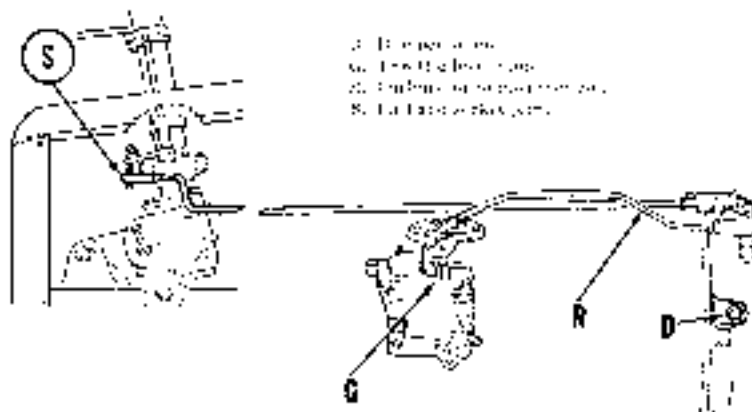

Fig. MH12—Pony governor linkage assembly.
33. SPEED ADJUSTMENT: To adjust maximum no-load governor speed, remove float assembly which exposes lever mechanism. Rotate quadrant screw clockwise as in Fig. MH12. Change the idling speed from 900 by turning $\frac{1}{8}$ inch lock nut (B) on governor rod until desired speed is obtained. If engine surges at no-load speed, turn in on bumper screw (D) until surge is eliminated; this will cause slight increase in no-load speed. Governor governed speeds follow: